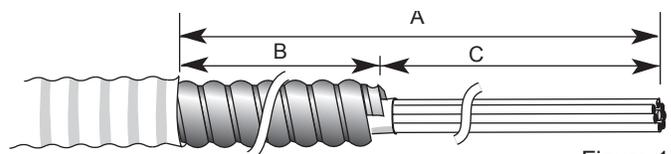

Figure 16
**5.5** Table 1 and Figure 16 indicate the outer jacket strip length (A), exposed armor length (B), and exposed cable core length (C) required for each grip installation.